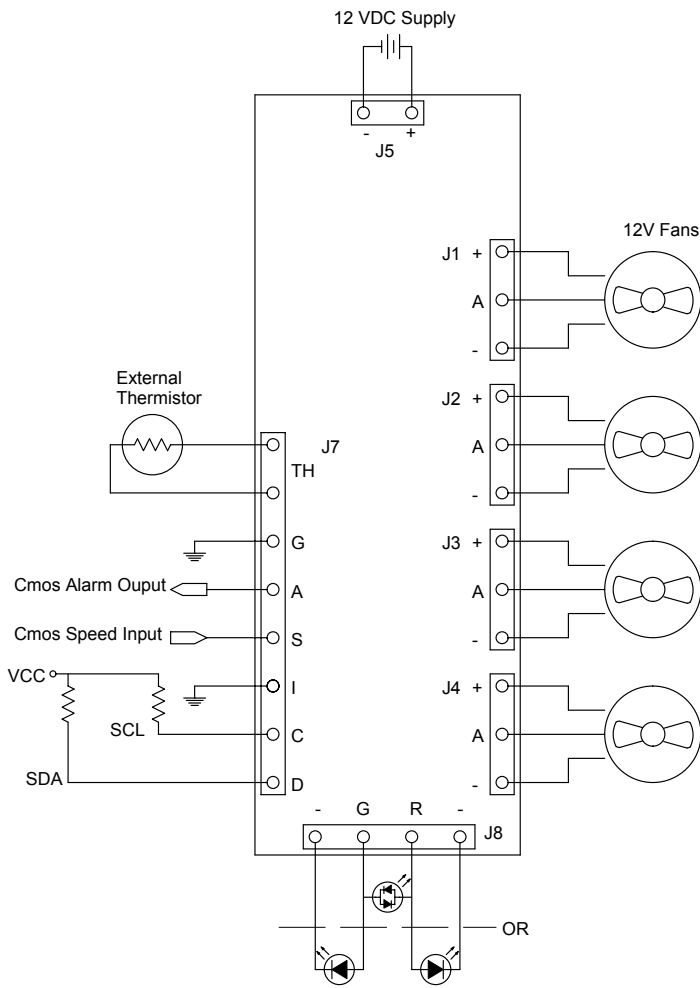

FIGURE 1.0: Connection diagram showing input power, fan, alarm, and temperature sensor connections for a Vortex Fan Control.
Refer to Figure 1.0 for input power wiring. One power supply in the range of 12 VDC +/- 20% should be connected at header J5. The Vortex can supply up to 5.0 Amps (still air) at 12 VDC to the fan load.
Four Fans: The Vortex distributes power to and monitors the tachometer signals from four three-wire fans. Referring to Figure 1.0, connect the fans to headers J1 through J4. Fan wires are usually color coded with red for +, black or blue for - and white or yellow for tachometer signal. Fan current at each fan header must not exceed 4.0 Amps. Total current required by the fans connected to the Vortex must not exceed 5.0 Amps (still air) at 12 VDC.
Temperature Sensor Control using Sensors: The Vortex can be configured to operate with either an external sensor or the on-board sensor, which is used to provide temperature based fan speed control and alarming. Referring to Figure 1.0, connect the external sensor if used to header J7. There is no polarity consideration when connecting the sensor. Temperature accuracy and hysteresis is 2°C.
Header J8 provides local indication of Alarm (R) and Normal (G) status. Referring to Figure 1.0, connect alarm LEDs to header J8. **All alarm circuits on header J8 are non-isolated from input power (J5).** Choose single color LEDs or two leaded, bi-color LEDs with a rated forward voltage (V_f) between 1.6 and 2.4 VDC at a forward current (I_f) of between 15 and 25 mA. Nominal current applied to the LEDs is 8 mA.
A signal logic level alarm output is provided on header J7 to provide remote indication of alarm status. Referring to Figure 1.0, connect logic circuits to header J7. **All alarm circuits on header J7 are non-isolated from input power (J5).**